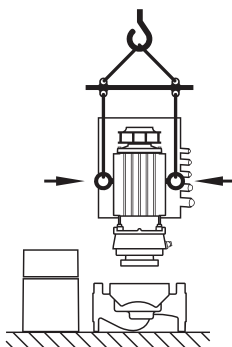

Fig. 24: Transport of the motor impeller unit
- If the transport eyes have been moved from the motor flange and installed at the motor housing, then they are only approved for carrying or transporting the motor impeller unit (Fig. 24) and not for transport of the whole pump and not for separation of the motor impeller unit from the pump housing (pay attention to the previous dismantling and subsequent installation of the spacer).